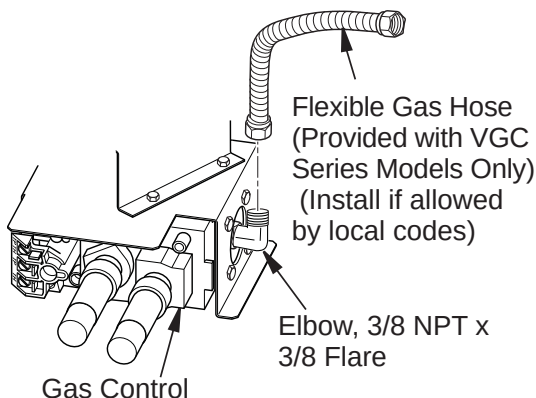

Figure 11 - Attaching Flexible Gas Hose to Appliance Gas Regulator
1. Apply pipe joint sealant lightly to male threads of the 1/2 NPT side of gas fitting elbow (provided) and connect to inlet side of gas control. Remove gas fitting from flexible gas hose (provided) before connecting to elbow (see **Figure 11**).
4. Disconnect gas line from appliance base as shown in **Figure 11, Page 13**.